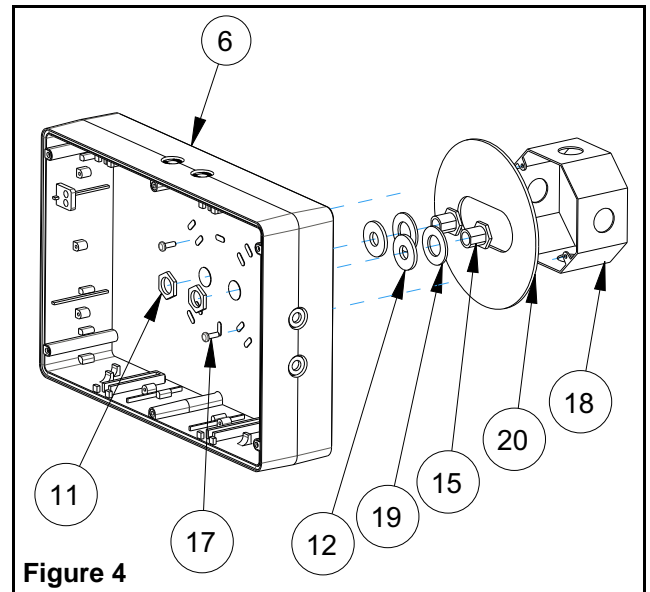

Figure 4
- a. Remove the backplate from the packaging. Determine the proper knockouts to remove for mounting to a junction box (see Figure 4).
- c. Mount parts 11, 12, 15, 17 & 19 to backplate, as shown in Figure 4, and reinstall the back plate to the frame using the 6 tamper-proof screws (use the supplied bit).